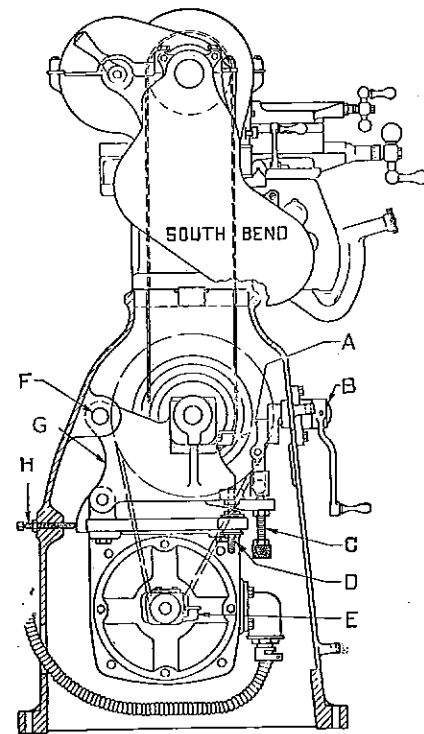

Fig. 1. Cross Section End View of Underneath Belt Motor Driven Lathe.
Motor and Driving Unit are enclosed in the cabinet leg under the headstock. Attached to Cradle (G) Fig. 1, are the countershaft and electric motor. The belt tension release lever (B) controls the position of the cradle and countershaft. When lever (B) is in the "Up" position the entire driving unit is lifted vertically about 1 1/2" so the spindle belt may be shifted. When lever (B) is in the "down" position the driving unit is in position for the operation of the lathe. (A) and (E) are oil cups for lubricating bearings.
Fig. 1. South Bend Underneath Belt Motor Driven Bench Lathe with Section of Bench Front Cut Away to Show Drive Mechanism. Bench used is illustrated and described on page 62.